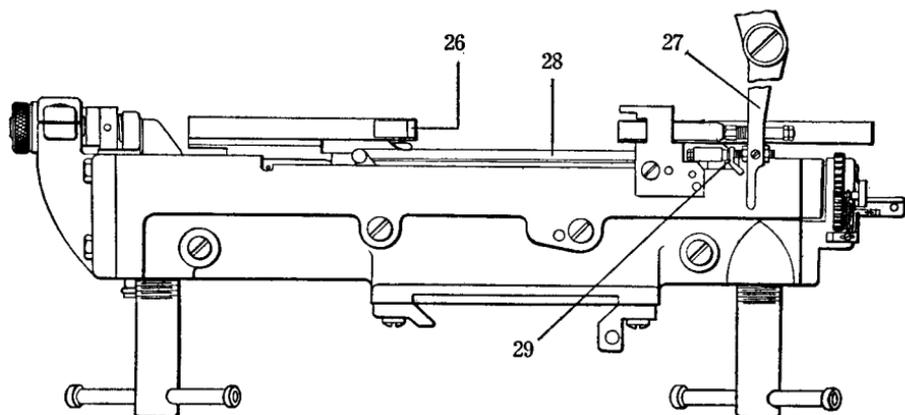

FIG. 6-32. View of the vise cap and vise jaws showing the vise jaw left-hand safety detent and the pump stop lever operating lever.
**Left-Hand Vise Jaw Detent Operating Lever**—This operating lever 26, Figs. 6 and 7-32, and associated parts contained in the left-hand vise jaw should be kept clean and free from small particles of metal, which may prevent free operation. It is the pressure of the matrices against the lever 26 that operates the pump stop lever operating lever 27, Fig. 6-32, through the movement of the safety detent bar 28, Fig. 6-32.
The safety detent operating lever should always extend beyond the face of the vise jaw after the matrices have risen from between the vise jaws. If this lever remains flush with the face of the vise jaw or remains depressed, the pump stop lever will be open, which would allow machine to cast with a short line or with the jaws open. The detent bar 28, Fig. 6-32, must be parallel with the vise cap. If this bar becomes bent or damaged, it should be straightened or replaced with a new one otherwise the pump stop lever operating lever will not function properly.